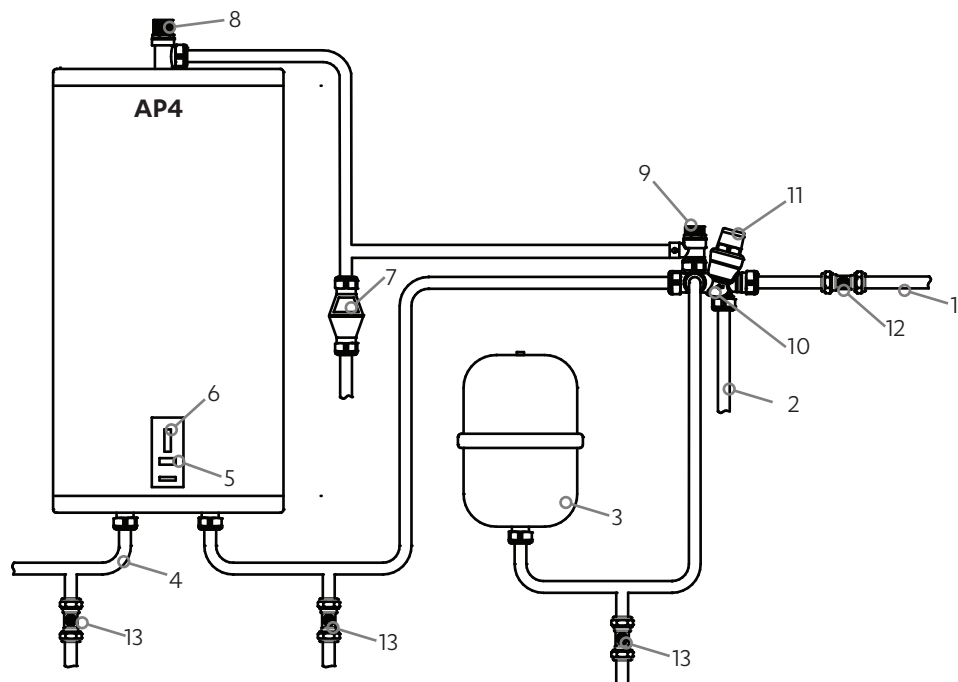

Fig 4
- In a closed, pressurised system (Fig. 4) pressurised mixer taps should be used at the outlet points.